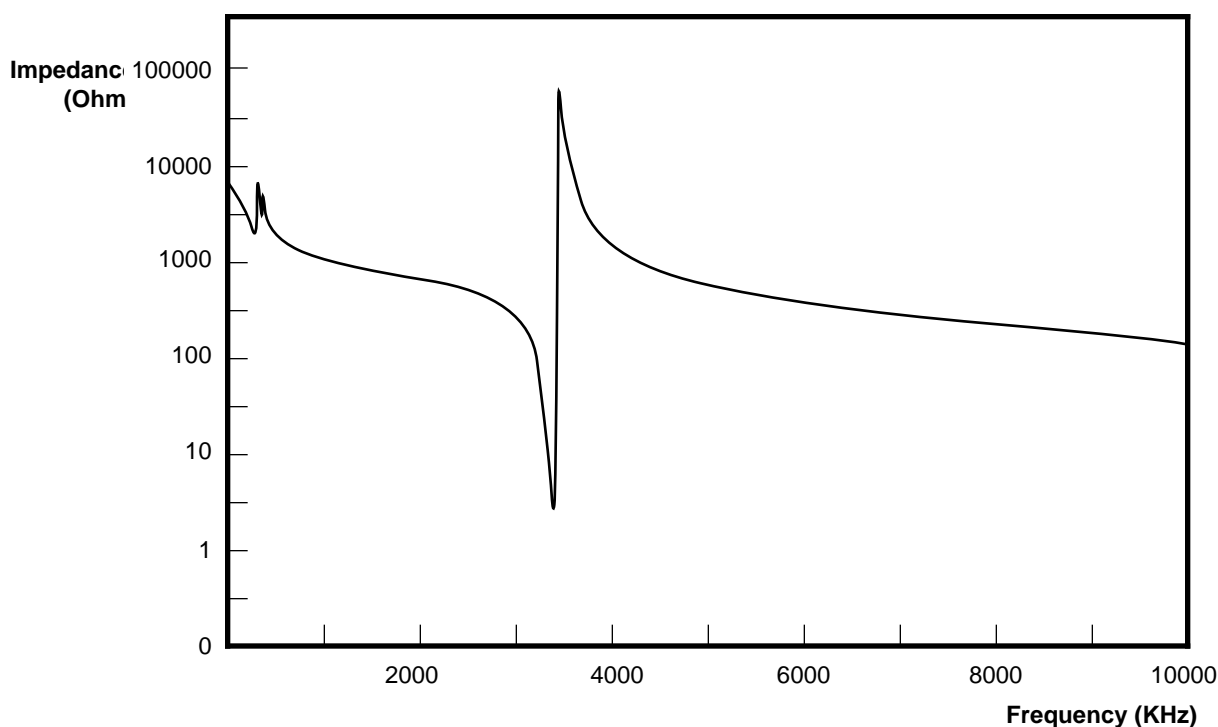
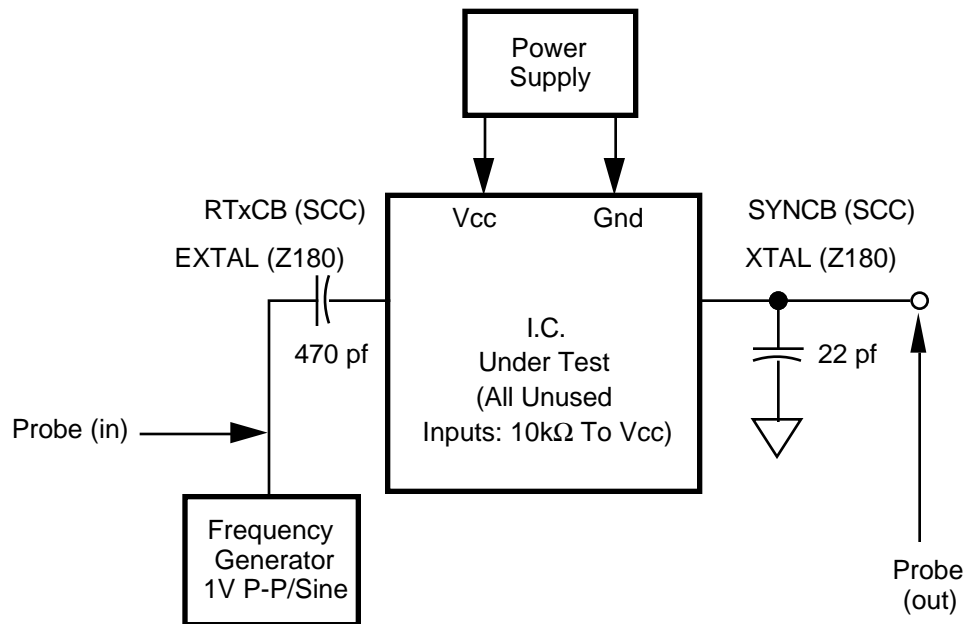

Figure 5. Ceramic Resonator Reactance
Figure 6. Gain Measurement
Ceramic resonators are similar to quartz crystals, but are used where frequency stability is less critical and low cost is desired. They operate on the same basic principle as quartz crystals as they are piezoelectric devices and have a similar equivalent circuit. The frequency tolerance is wider (0.3 to 3%), but the ceramic costs less than quartz. Figure 5 shows reactance vs. frequency and Figure 6 shows the equivalent circuit.
**Gain Measurement Circuit.** The gain of the amplifier can be measured using the circuits of Figures 6 & 7. This may be necessary to verify adequate gain at the frequency of interest and in determining design margin.